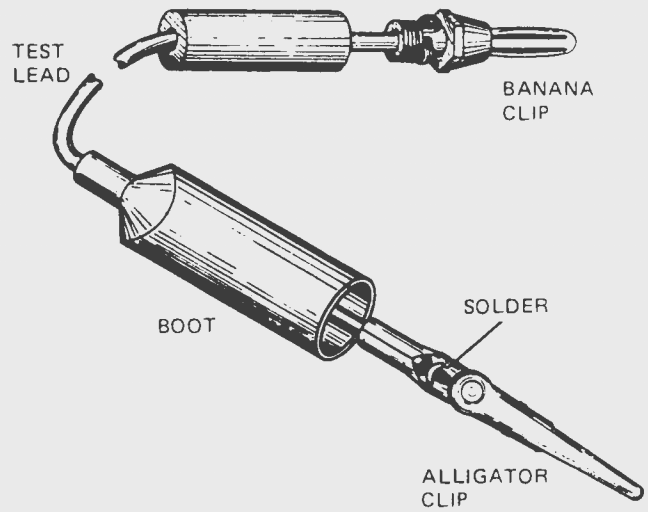

Fig. 15. Assembling the ground lead.
(1) Refer to Fig. 15 and assemble the ground lead as shown ()
(2) Locate the completed main circuit board and install it on the main chassis. The circuit board is installed by placing it over the connectors with a standoff insulator aligned with the four holes at the edges of the board. Press the board down over the standoffs until it stamps into position, making sure that the connectors meet properly with the receptacles on the circuit board ()
(3) Turn the shaft on the volume control fully counterclockwise. Now install a knob on the shaft to this control with the white dot pointed toward the MIN position on the volume control dial. Tighten the set screw in the knob to hold it in place ()
(4) In a similar manner, install the knob on the fine attenuator control after making sure that the shaft is turned completely counterclockwise and the switch is in the OFF position. Secure the knob with a white dot pointing toward the OFF position on the attenuator dial ()
(5) Using a pair of pliers, turn the shaft on the band switch fully counterclockwise. Install a knob on the shaft of this control by tightening the set screw up against the flat in the shaft. The white dot on the skirt of the knob should point toward the RF position on the dial. If the white dot on the skirt of the knob is not aligned with the RF position on the dial, remove the knob and loosen the nut holding the switch to the panel. Adjust the switch as necessary to bring the white nut into alignment with the RF position. When they are aligned, tighten the nut to secure the switch, then install the knob and tighten the set screw against the flat ()
(6) Mount the remaining knob on the shaft of the coarse attenuator control. If necessary, adjust the position of this control by loosening the nut securing it to the panel to bring the dot into alignment with the legend printed on the panel ()